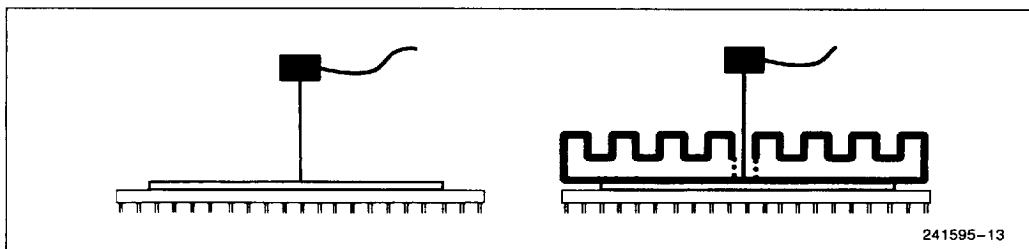

Figure 5-1. Technique for Measuring T_{case}
- The thermocouple should be attached at a 90 degrees angle as shown in Figure 5-1. When a heat sink is attached, a hole (no larger than 0.15") should be drilled through the heat sink to allow probing the center of the package as shown in Figure 5-1.